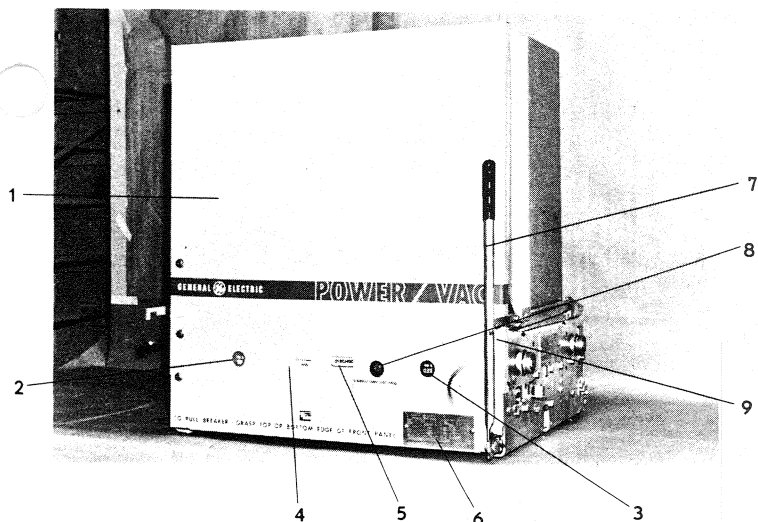

Fig. 1 — Power/Vac\* Breaker — Front View
If control power is lost, or manual operation desired, the close spring may be manually charged by using a  $\frac{3}{8}$  inch hex socket ratchet-type wrench to rotate the manual charging wind shaft, (8) Fig. 1, in the direction indicated by the arrow until the yellow indicator shows "CHARGED".